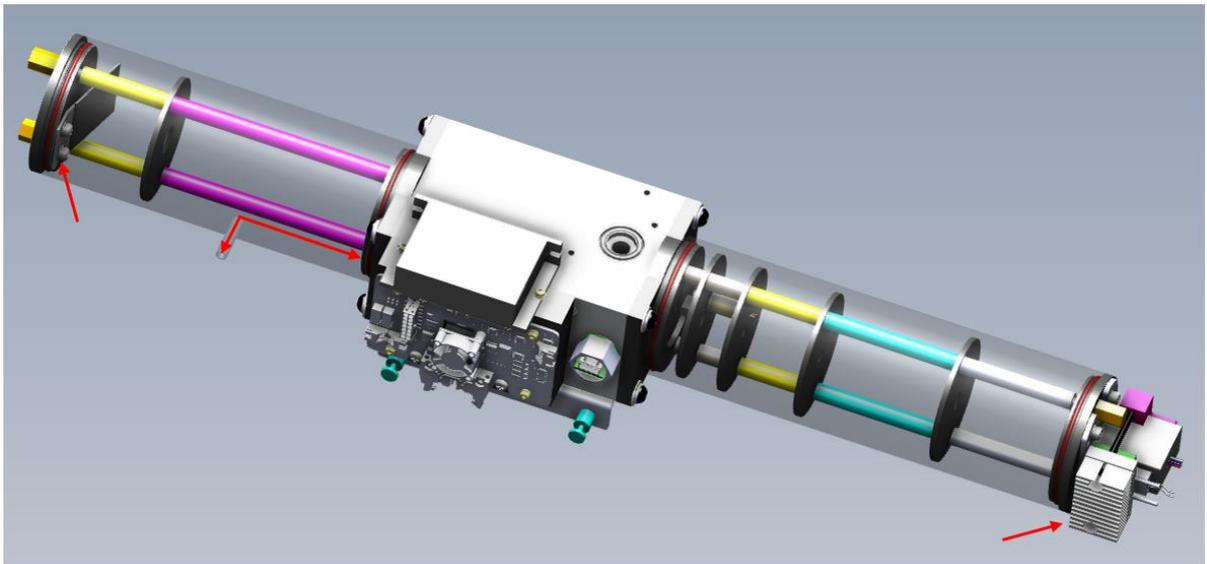

Figure 203 – Optical Cell Transparent Tube Casing
4. Replace the tube casing (light trap end) by sliding it back over the baffles taking care not to damage the paint. Refer to Figure 203 for the orientation of the casing (sample exhaust side closest to the block). Supporting the casing with both hands will give the best result. Once the casing reaches the block end you will need to change your hand placement, one hand used to support the block while twisting the casing with the other hand while also pushing towards the block. Care should be taken not to pinch the O-ring or your leak check will fail.
5. Place the light trap end plate over the threaded stubs and into the tube casing. Refer to Figure 203 for the direction of the light trap. Wiggle and press into place. Care should be taken not to pinch the O-ring or your leak check will fail.
8. Place the PMT end plate over the threaded stubs and into the tube casing. Refer to Figure 203 for the direction of the PMT assembly (heat sink of the PMT facing the light source side). Wiggle and press into place. Care should be taken not to pinch the O-ring or your leak check will fail.